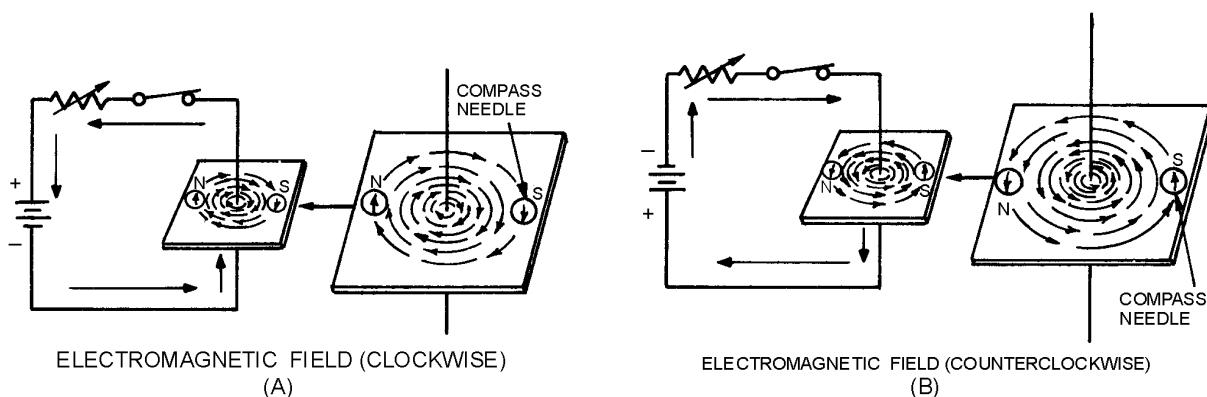

Figure 1-2.—Magnetic field around a current-carrying conductor.
If a compass is placed in the vicinity of a current-carrying conductor, the compass needle will align itself at right angles to the conductor, thus indicating the presence of a magnetic force. You can demonstrate the presence of this force by using the arrangement illustrated in figure 1-2. In both (A) and (B) of the figure, current flows in a vertical conductor through a horizontal piece of cardboard. You can determine the direction of the magnetic force produced by the current by placing a compass at various points on the cardboard and noting the compass needle deflection. The direction of the magnetic force is assumed to be the direction in which the north pole of the compass points.
In figure 1-2 (A), the needle deflections show that a magnetic field exists in circular form around the conductor. When the current flows upward (see figure 1-2(A)), the direction of the field is clockwise, as viewed from the top. However, if you reverse the polarity of the battery so that the current flows downward (see figure 1-2(B)), the direction of the field is counterclockwise.
The relation between the direction of the magnetic lines of force around a conductor and the direction of electron current flow in the conductor may be determined by means of the LEFT-HAND RULE FOR A CONDUCTOR: if you grasp the conductor in your left hand with the thumb extended in the direction of the electron flow (current) (– to +), your fingers will point in the direction of the magnetic lines of force. Now apply this rule to figure 1-2. Note that your fingers point in the direction that the north pole of the compass points when it is placed in the magnetic field surrounding the wire.
Figure 1-2 shows that the direction of the magnetic field around a straight wire depends on the direction of current in that wire. Thus, a reversal of current in a wire causes a reversal in the direction of the magnetic field that is produced. It follows that a reversal of the current in a coil also causes a reversal of the two-pole magnetic field about the coil.